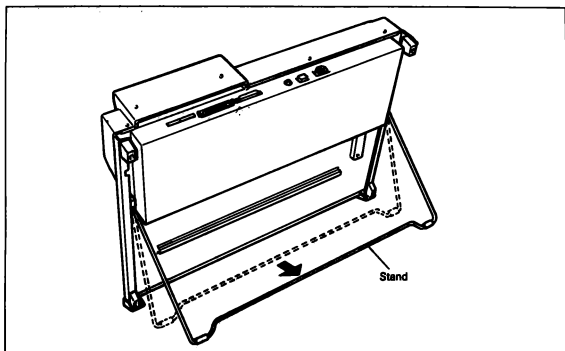

Fig. 2-5
- 1) When the stand is pulled in the direction of the arrow as shown in Fig 2-5, it will be fixed automatically.